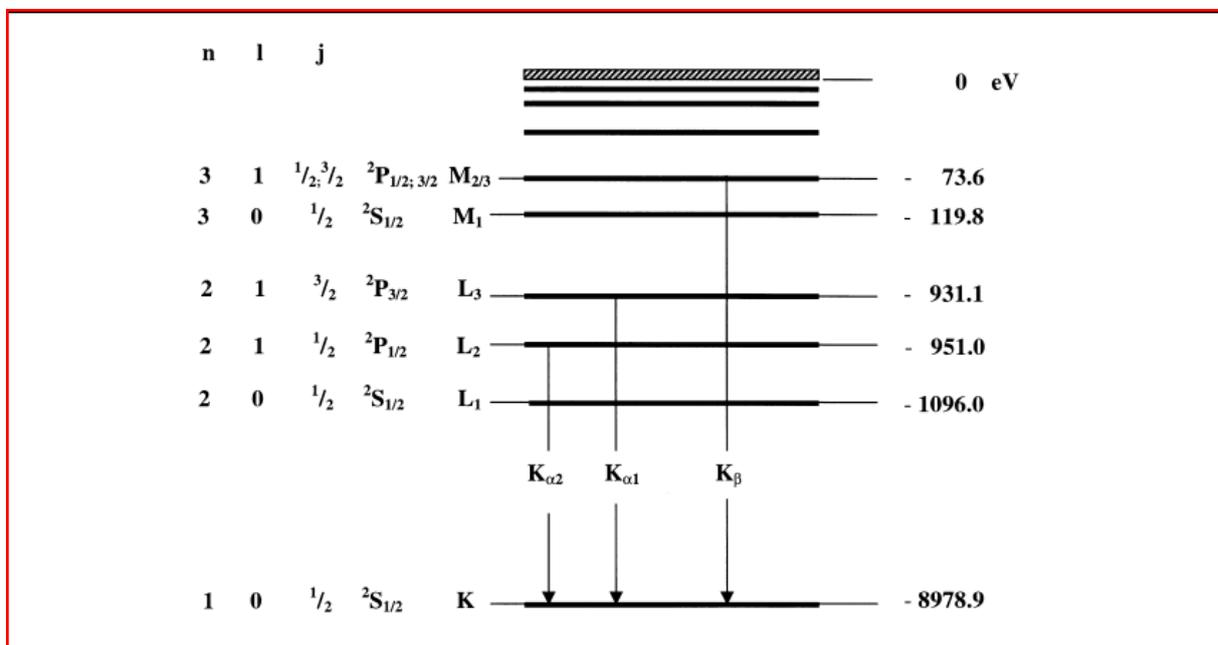

Figure 5. Energy level diagram for copper (Z = 29).
4. Use Equation (1) in *Appendix B* to calculate the energies of the lines K_{α} and K_{β} . Calculate their average values and include uncertainties.
5. Compare the experimental results obtained with the values calculated from *Figures 5* and *6*.